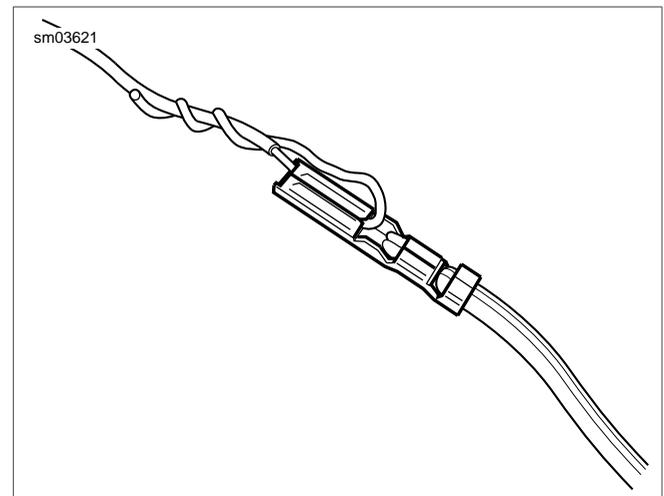

Figure 8-49. Fix Mechanics Wire to Socket Terminal
- Obtain three equal lengths of strong flexible wire for use as mechanics wire. Feed wire through opening in socket terminal and then loop back twisting end until tightly coiled around longer strand as shown in Figure 8-49. Repeat step with remaining socket terminals.